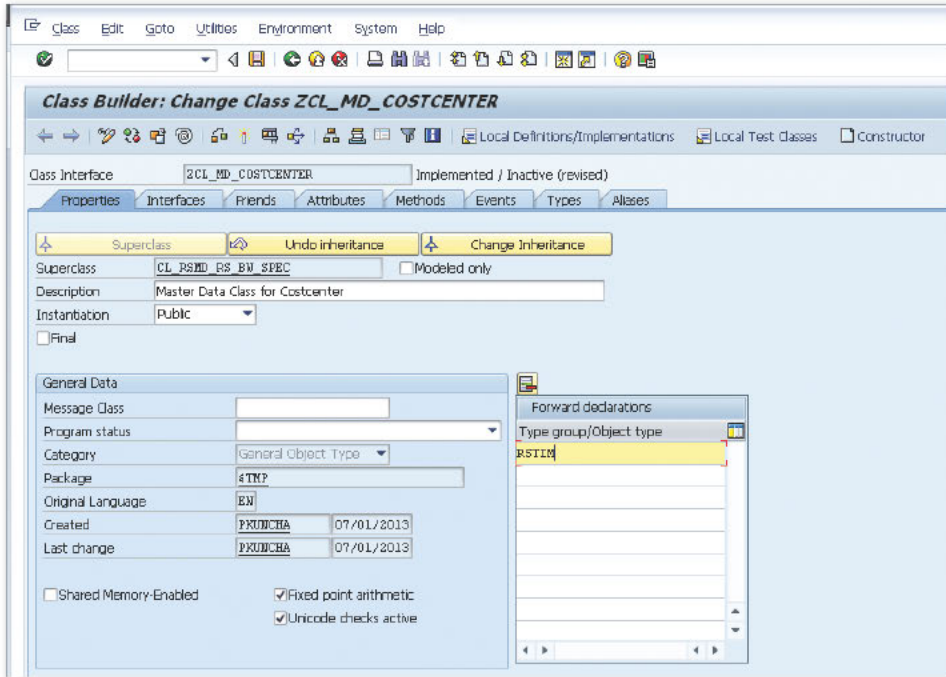

Figure 2 Defining the Superclass
4. Input the query name that you want to use as a source (see Figure 2), and click on CONTINUE.
» Figure 2 Selecting the Query to Be Used for the Transformation
4. Enter the SUPERCLASS name as "CL_RSMD_RS_BW_SPEC" and enter "RSTIM" in the FORWARD DECLARATIONS field (see Figure 2). Save your changes.